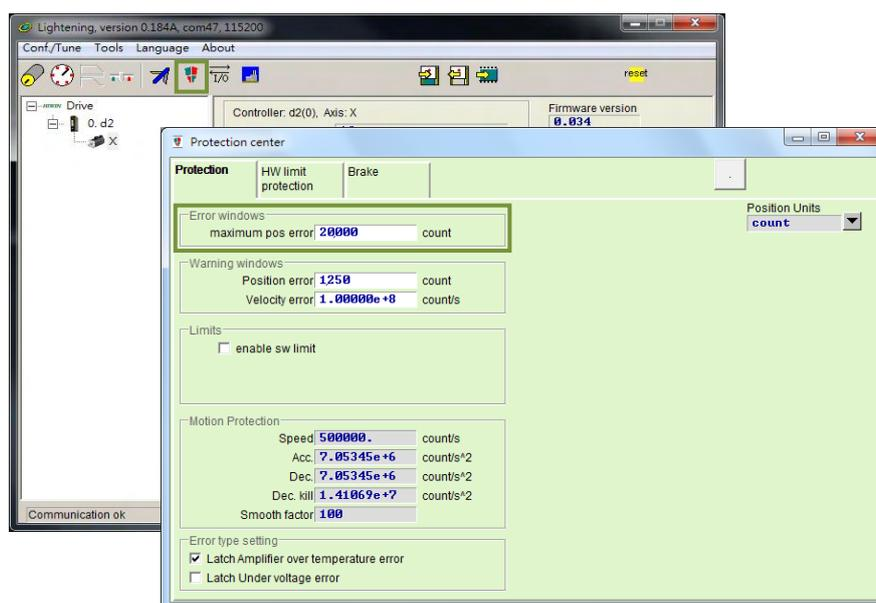

Figure 9.3.1
- (1) Modify the maximum position error through the steps described in Figure 9.3.1.
- (2) It is not recommended to set the position error higher than the default value. If “ERR E03” appears at the default value, adjust servo stiffness.